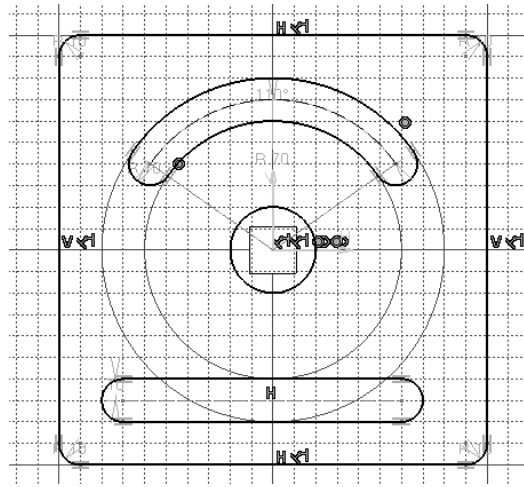

Figure 3-48 The final sketch
13. Now, press the TAB key five times and enter the value **10** in the **Radius** edit box. Next, press the ENTER key. The final sketch is created, as shown in Figure 3-48.